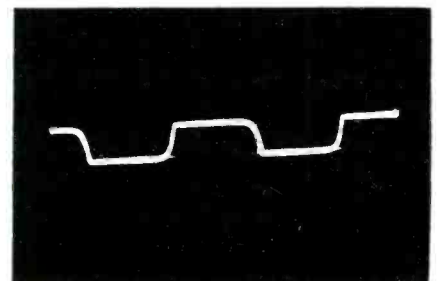

Fig. 7 — Vertical gain reduced.
A. This situation, which is illustrated in Figs. 7 and 8, is the result of a psychological illusion. By increasing the proportion of height to width, it would appear that the rise time of the waveform is improved, although the rise time actually remains constant.